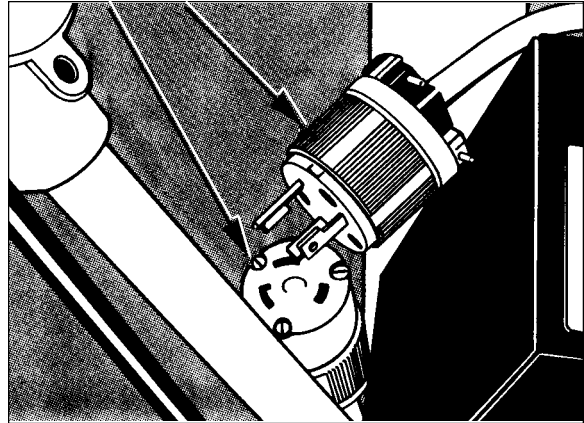

Figure 2
2. Disconnect the handle pigtail cord connection. (twist and pull) See figure 2.